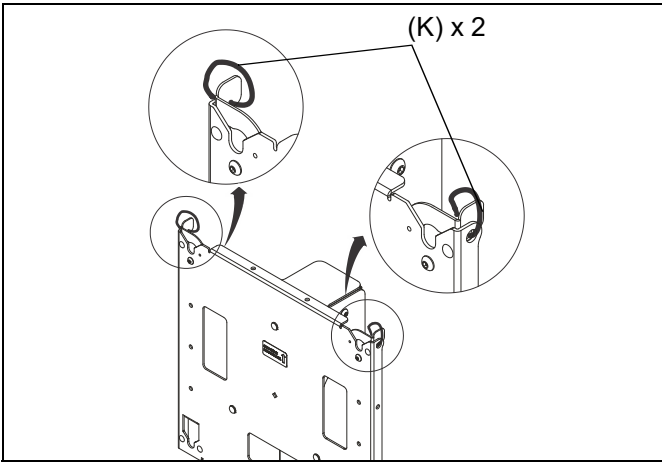

Figure 20
18. Make sure latching flags are in "closed" position prior to using cart! (See Figure 20)
**IMPORTANT !** : Manufacturer recommends using cable ties (K) to secure the latching flags in closed position on both sides if padlock is not being used. (See Figure 20)